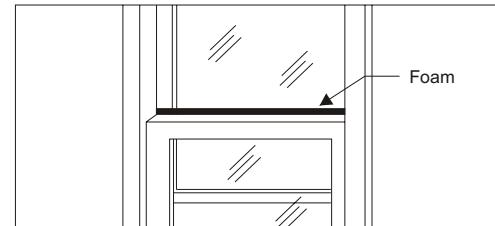

Fig. 13
A. Cut the foam to fit the opening between the top of the inside and outside window. See (Fig. 13).